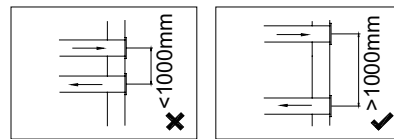

Figure 5 Distance between air openings
- (5) In order to prevent discharged air returning back, at least 1000mm should be kept between two air vents at the outer wall, as shown in the figure 5. Note that installation should be based on the field-supplied equipment.